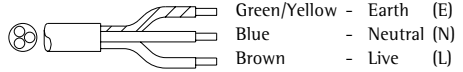

fig. 5
- (Fig. 5) For 220V-240V 1 live/neutral with plug socket.
- (Fig. 5) For 220V -240V 1 live/neutral (3 core electric cable).
The following remarks apply to figure 5:
The three core mains cable (fig. 5) has the following wiring code: